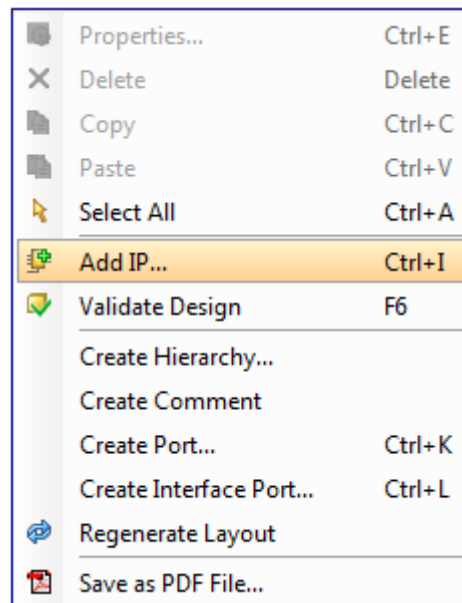

Figure 1.9: Add IP Option
- (c) In the *Vivado IP Integrator Diagram* canvas, right-click anywhere and select **Add IP**, as in Figure 1.9.